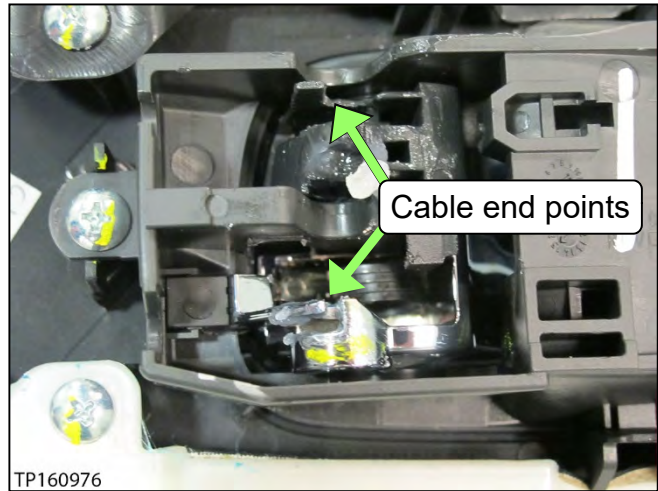
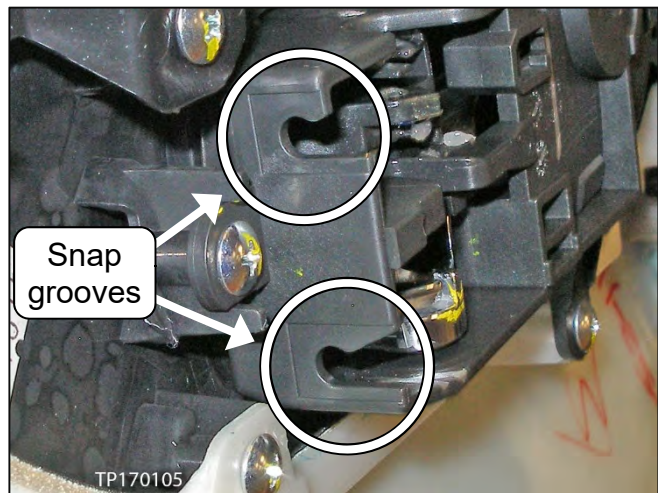

Figure 34
Figure 35
4. Inspect the inside door handle snap grooves and cable end points for damage (see Figure 34 and Figure 35).